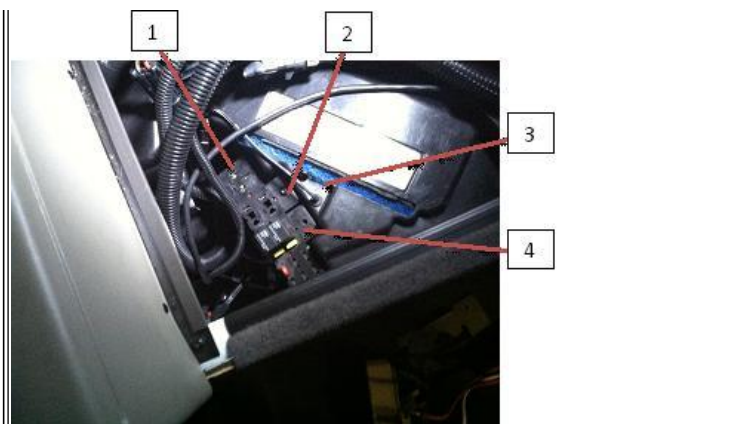

Figure 5: Control Center and End Section.
11. Remove screw (Figure 5, Item 2) from control center (Figure 5, Item 4) and slide control center off support bracket (Figure 5, Item 3).
12. Remove red locking clip and release end section (Figure 5, Item 1) from control center (Figure 5, Item 4).
27. Install control center (Figure 5, Item 4) on support bracket (Figure 5, Item 3) with screw (Figure 5, Item 2).